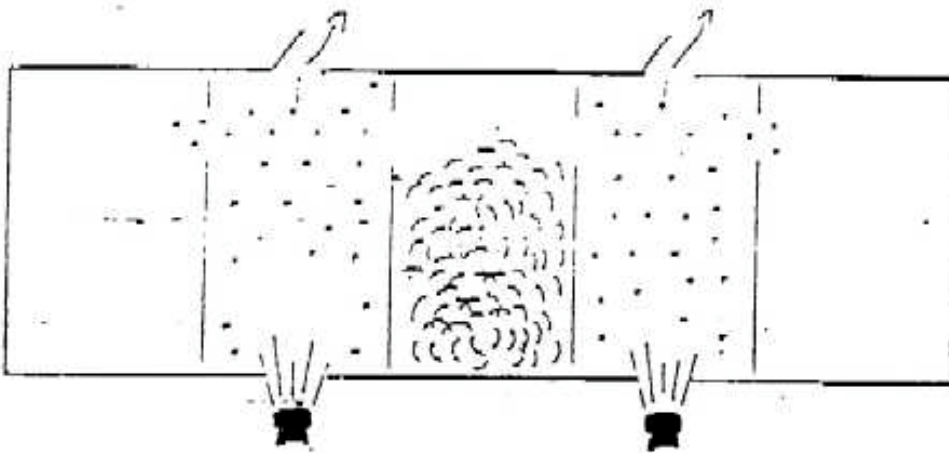

FIGURE 5
6. Positive pressure ventilation fans may also be set up on either side of the involved structure to reduce smoke spread. (See Figure 5)